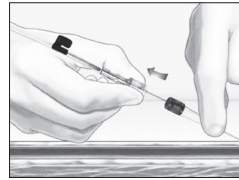

Figure 4
- Firmly hold introducer needle hub in position and advance catheter/needle protection assembly, over guidewire into vessel (refer to Figure 4).